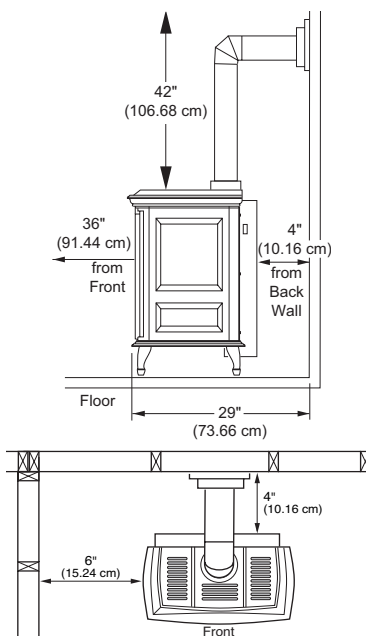
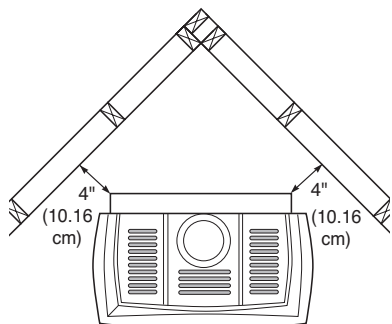

Figure 3 - Clearances for Standard Installation
Figure 4 - Clearance for Corner Installation
- Proper clearances must be maintained. See Figure 3 and Figure 4, pages 6 and 7.
- You must maintain minimum wall and ceiling clearances shown in Figures 4 and 5, page 7.